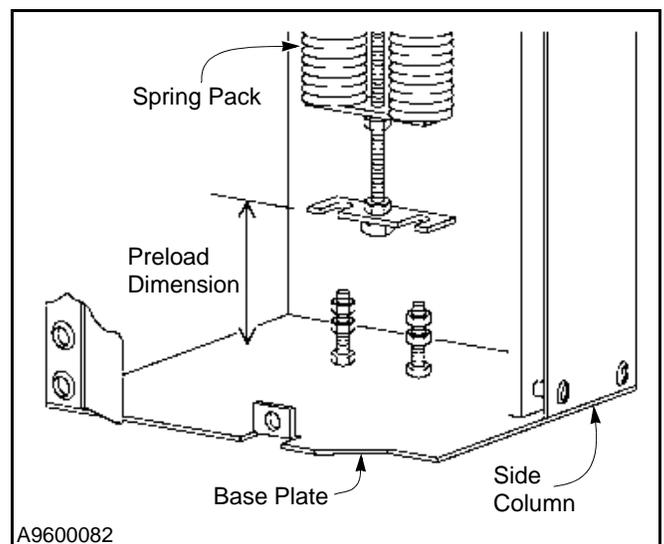

Figure 36
- Preload dimension will adjust the spring to a preset tension before securing the spring packs to the base plate. That measurement is from the base plate to the forked plate on the spring pack. (See Figure 36.)